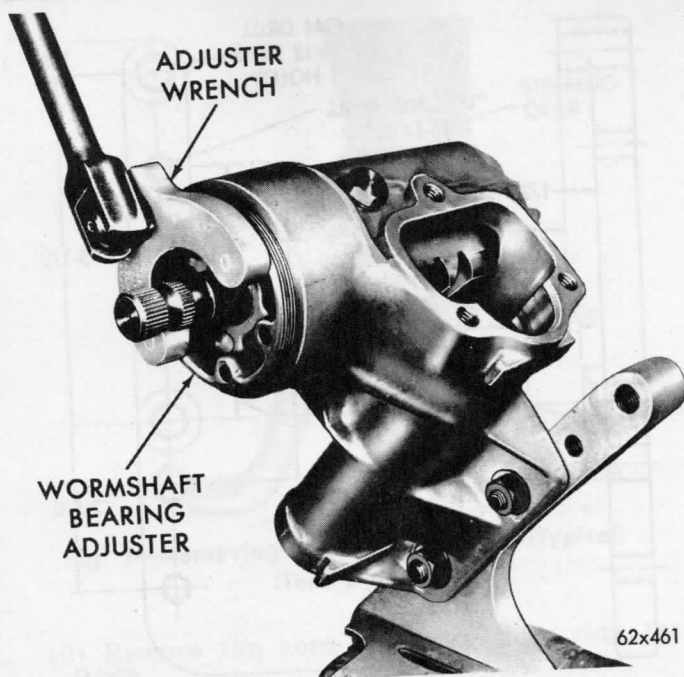

Fig. 8—Removing Wormshaft Adjuster
(5) Remove the lock nut from the cross shaft adjusting screw and remove the screw from the cover by turning the screw clockwise.
(6) Slide the adjustment screw and shim out of the slot in the end of cross shaft.
(7) Loosen the wormshaft bearing adjuster lock nut with a soft drift and remove the lock nut. Hold wormshaft from turning while unscrewing the adjuster, using tool wrench from Tool Set C-3884. (Fig. 8).
(8) Slide the worm shaft adjuster off the shaft.